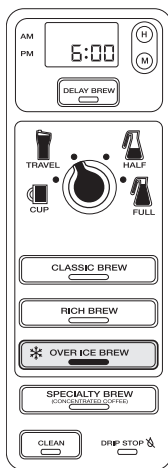

Fig. 19
- 3 Before brewing, fill the desired vessel to the top with ice cubes and place the vessel below the brew basket. Press "Over Ice Brew" and the brew will begin. (Fig. 19) Press the "Over Ice Brew" again to cancel brew.